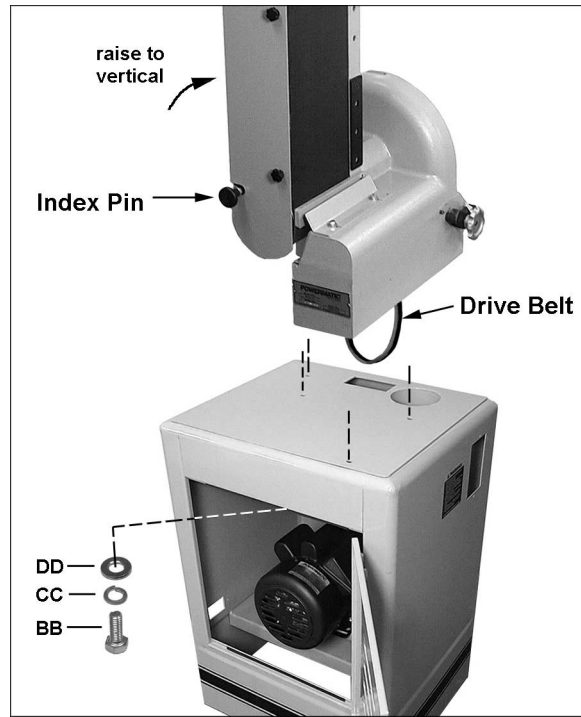

Figure 3
Refer to Figure 3:
2. The sander is shipped with the belt arm in horizontal position. Pull out on the *index pin* and raise the arm to vertical position, as shown in Figure 3. This will better balance the sander as you place it on the stand. Allow the index pin to pop back in to ensure the belt arm is secure.
4. Secure the sander to the stand with four M8 x 25 *hex head screws* (BB), four M8 *lock washers* (CC) and four M8 *flat washers* (DD). **NOTE:** Hand tighten the screws only until all four are inserted; then tighten them completely with a 13mm wrench.